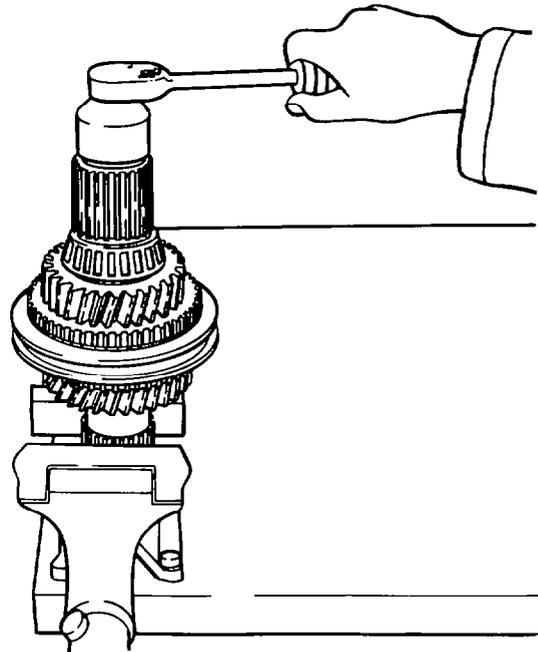

Figure 42 Removing the Sun-gear
- (5) Use Special Tool No. 4 to remove the slot nut (1) securing the sun-gear to the mainshaft (see Fig 42); detach the spigot peg (14) from the mainshaft.
- (6) Use a suitable puller to remove the remaining components from the mainshaft; clean and inspect the gearbox and all components; replace any worn or damaged components.
- (7) Remove the mainshaft from the vice; clean and inspect the mainshaft; ensure that the oil channels in the mainshaft are clean and free from dirt or obstructions; replace the mainshaft if any wear, scoring or damage is evident on the shaft or splines.
- (8) Clamp the shaft in the vice with the threaded section for the sun-gear locknut uppermost; fit the needle bearing and 3rd/7th speed gear (13) to the shaft; fit the synchro-hub (8) to the shaft; ensure that the cones and dog teeth mesh correctly.
- (9) Fit the needle bearing, 4th/8th speed gear (6) and bearing bush to the shaft; ensure that the cones and dog teeth mesh correctly.
- (10) Press the taper roller bearing (3) onto the mainshaft; ensure that the bearing beds fully home on the shaft; align the oil channel in the sun-gear (2) with the oil channel in the mainshaft, and fit the sun-gear to the mainshaft; use a press and drift or collar suitable for the job; ensure that the sun-gear beds fully home on the shaft.
- (11) Fit the slot nut (1) to secure the sun-gear; tighten the slot nut to 150 Nm and secure; remove the assembly from the vice, rotate it through 180° and clamp it in the vice again.
- (12) Fit the needle bearing and 2nd/6th speed gear (17) to the mainshaft; fit the synchro-hub (19) to the mainshaft; ensure that the cones and dog teeth mesh correctly.
- (13) Fit the spacer shim (23), 1st/5th speed gear (22), needle bearing and bearing bush to the mainshaft; fit the taper roller bearing (24) onto the end of the mainshaft; ensure that the bearing beds fully home on the shaft.
- (14) Fit the thrust plate (26); install and tighten the retaining bolts; use a centre punch and hammer to lock the bolts in position; fit the spigot peg (14) into the mainshaft at the sun-gear end.